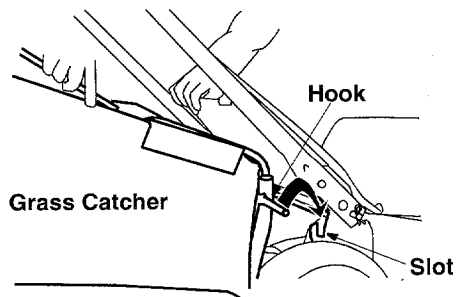

Figure 6
- Holding the grass bag firmly, place the bag on the mower as shown in Figure 6.
- Place hooks, located on two sides of the grass catcher frame, in the slots on the handle brackets. See Figure 6. Release the chute door.